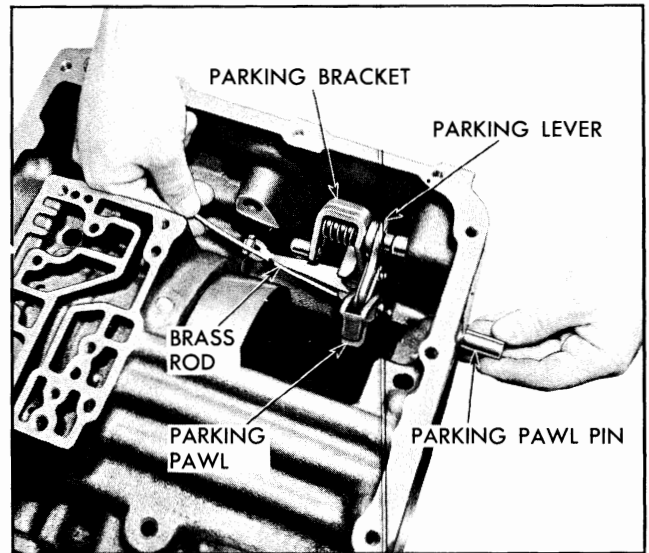

Fig. 7D-67 Removing Parking Pawl
1. Remove parking pawl pin from transmission case by pushing on inside end of shaft with $\frac{1}{8}$ " brass rod (Fig. 7D-67).